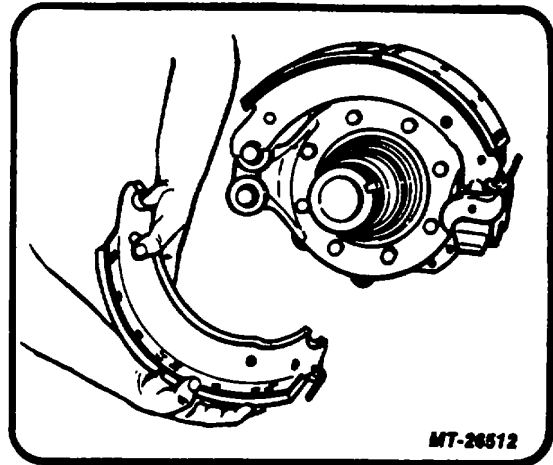

Fig. 17. Removing Lower Shoe
- Remove lower shoe (Fig. 17). Then remove upper shoe.